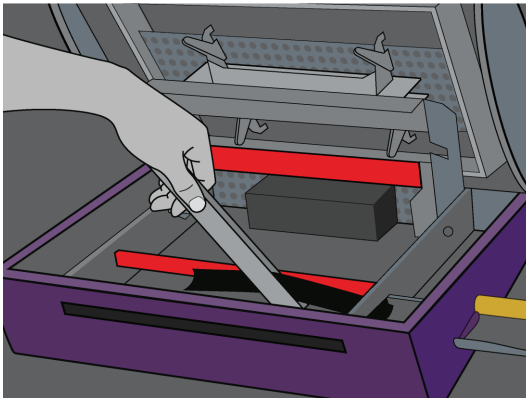

FIGURE 33
5. Remove the strip using the tongs. (figure 33)